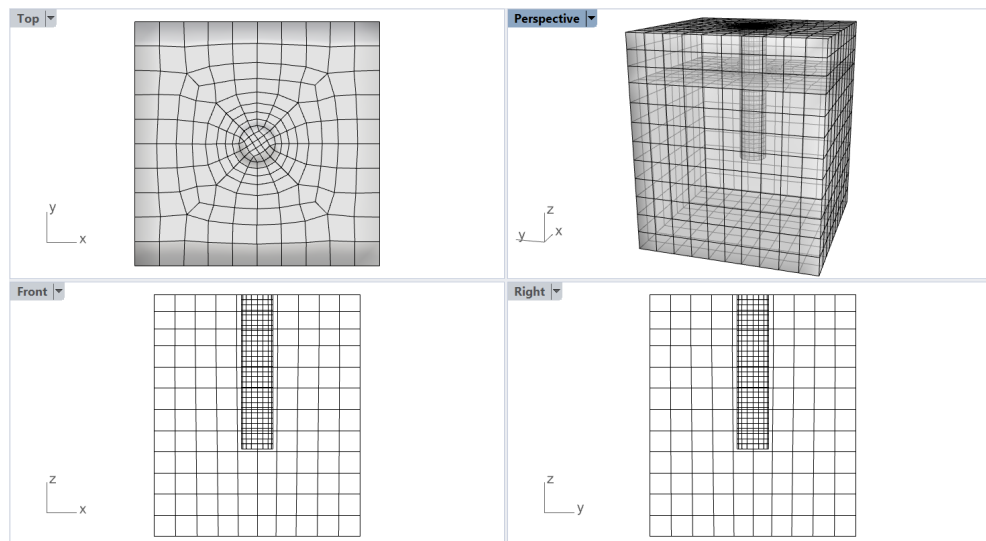

Figure 15: Rhino meshing dialog to create the initial mesh.
16. Select the surface mesh and type **\_GSurf** or click on the  icon in the *Griddle* toolbar to remesh the initial triangular mesh. Select *Mode = QuadDom*, *MinEdgeLength = 4*, *MaxEdgeLength = 20* and keep all other parameters at the default values. The resulting mesh is shown in Figure 15.
The surface mesh in Figure 15 looks good and rather symmetric despite the fact that this is an unstructured mesh. **GSurf** was able to create such a mesh due to simple symmetric geometry and the choice of meshing parameters. In general, however, unstructured meshes are rarely symmetric.